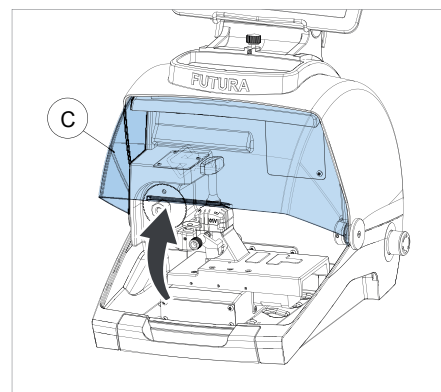

Fig. 6
The shield (C) must be raised in order to fit keys for cutting or carry out other operations (Fig. 6).